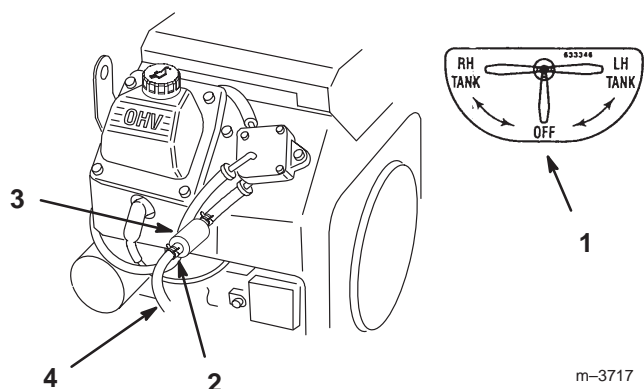

Figure 32
5. Install a new filter and move the hose clamps close to the filter (Fig. 32).
2. Close fuel shut-off valve (Fig. 32).
3. Loosen the hose clamp at the fuel filter and slide it up the fuel line away from the fuel filter (Fig. 32).
- Pull the fuel line off fuel filter (Fig. 32). Open fuel shut-off valve and allow gasoline to drain into a gas can or drain pan.
- Install the fuel line onto the fuel filter. Slide the hose clamp close to the fuel filter to secure the fuel line (Fig. 32).